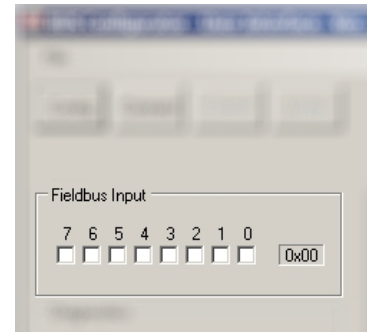

Figure 14
- The Fieldbus input whose logical status can be changed freely by the programmer (with the MBU module only) or via the fieldbus are illustrated in Figure 14.